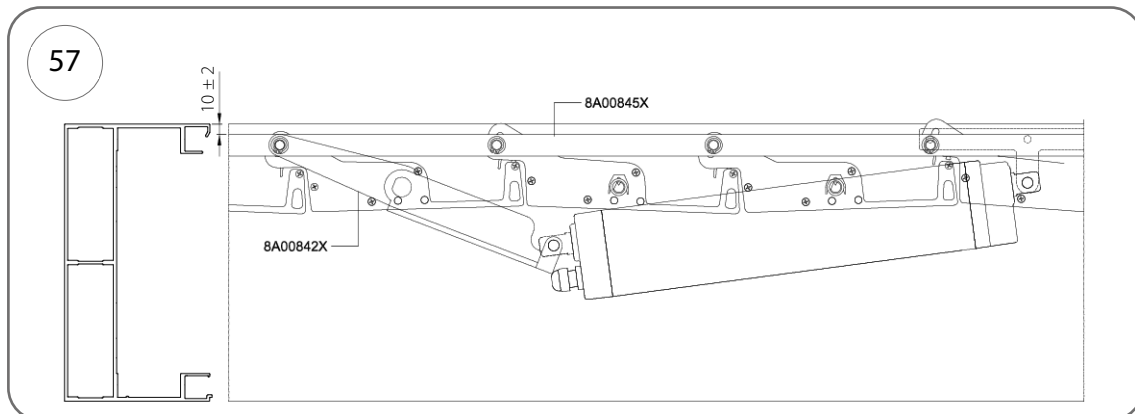

Fig. 57
3. Set the closed end position as shown in Fig. 57.